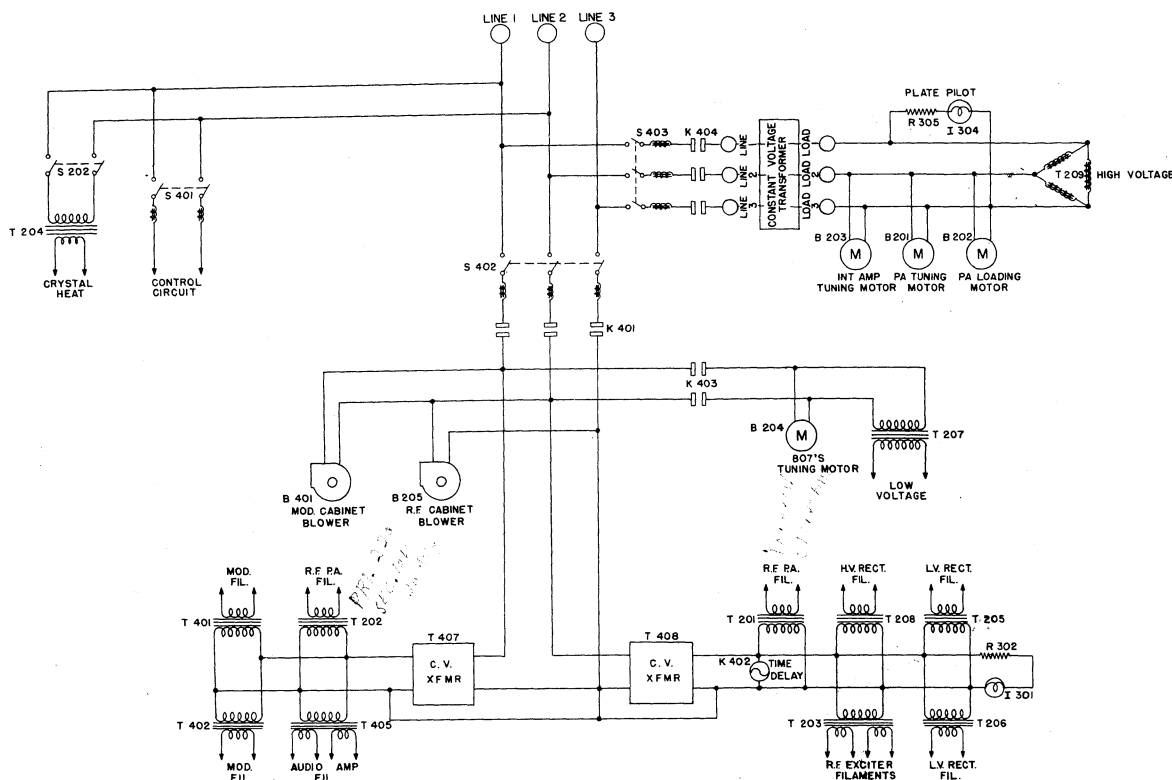

Figure 3-1 Simplified Primary Power Circuit
3.1.1. Primary Power Control Circuit. - Refer to figure 3-1. The 20T transmitter requires either 208 or 230 volts 3 phase 60 cycle power for operation. Three magnetic circuitbreakers, (1)Control Circuit, (2) Filament and Low Voltage circuit, (3) High Voltage Primary, control the major power circuits of the transmitter. Each circuit breaker serves two purposes: To isolate the major circuit and provide a-c overload protection.